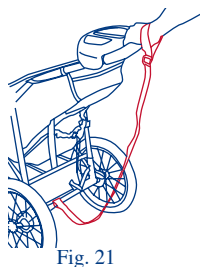
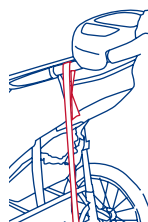

Fig. 21
Fig. 22
- **SAFETY WRIST STRAP:** Always connect the safety strap to either wrist when jogging. This strap will keep the stroller from rolling away in the event that you trip while running. (Fig. 21) The safety strap must remain connected to the rear lower frame cross member at all times. This location is intended to prevent the stroller being tipped backward in the event that you do fall to the ground. The safety strap includes a Velcro attachment for storage, on the left side of the stroller, when not in use. (Fig. 22)